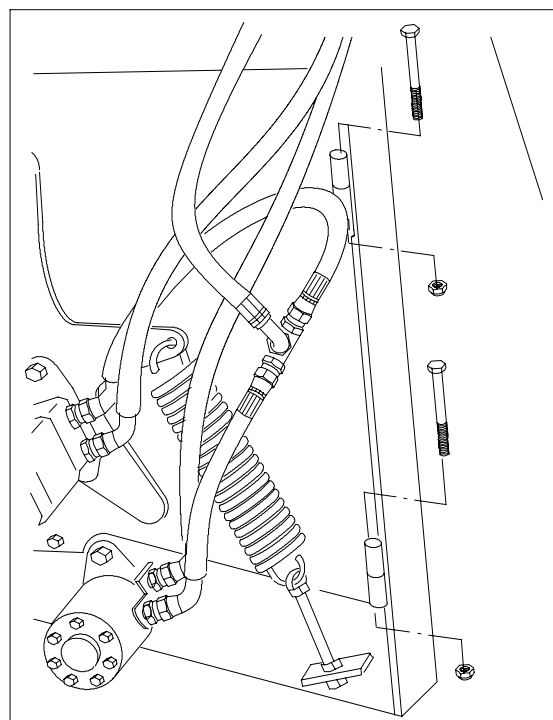

Fig. 4. Installing the hinge bolts.
3. Attach the feed chute to the frame with two M10x110 bolts and lock nuts. Fig. 4.